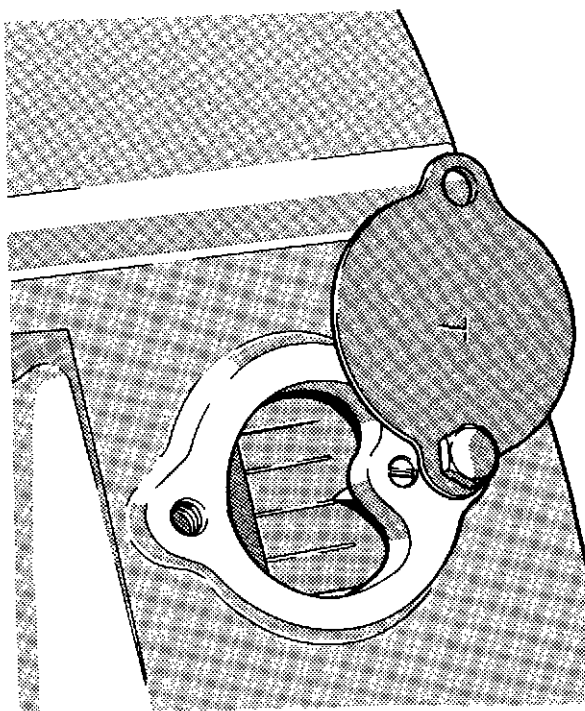

Fig. 5 Flywheel timing cover
- 1 Turn the engine by hand until the valves over the 'A1' cylinder are rocking and the 'A6' T.D.C. mark on the flywheel is opposite the pointer (fig. 5).
- 3 Remove the timing cover, stamped 'T', from the flywheel housing (fig. 5).